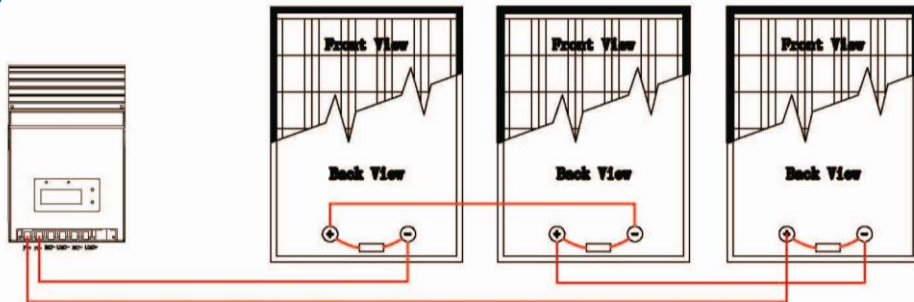

Figure 3-7. Solar modules in series connection
**1) Multiple solar modules in series connection(Refer to Fig.3-7):** All modules must be equal in voltage. The sum of their voltage must be equal to the nominal DC Voltage of the unit. The sum of their solar power must exceed the maximum capacity of the unit.